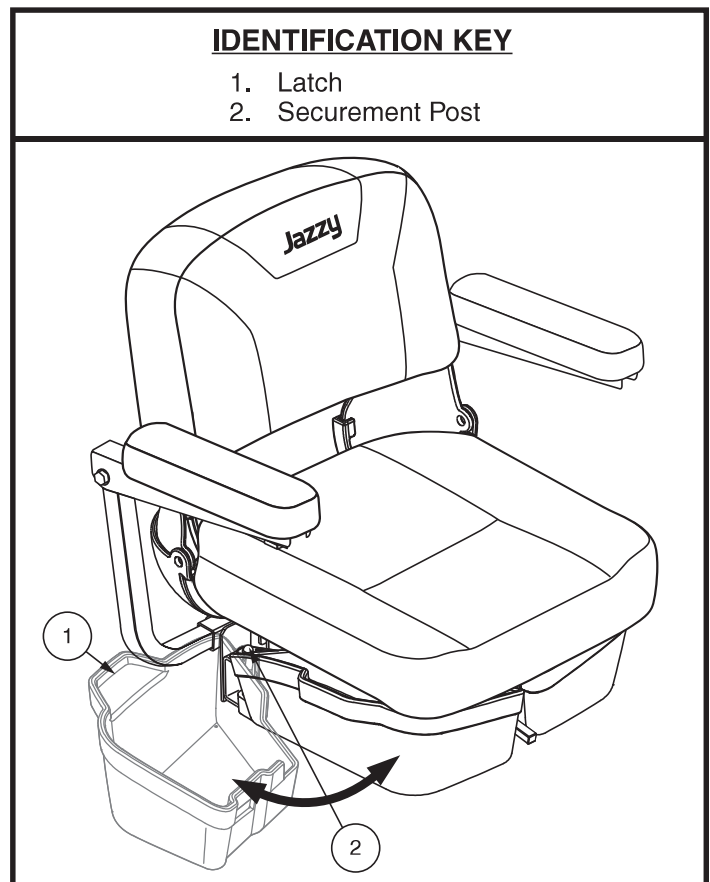

Figure 26. Under-seat Storage
1. Lift up slightly on the latch on the side of the under-seat storage bin (see figure 26) and swing the under-seat storage bin out and away from the Travel Scooter.
1. Lift up slightly on the latch on the side of the under-seat storage bin (see figure 26) and swing the under-seat storage bin out and away from the travel scooter until it is fully open.
2. If equipped, remove under-seat storage. See **Figure 26**.
7. If equipped, install under-seat storage. See **figure 26**.